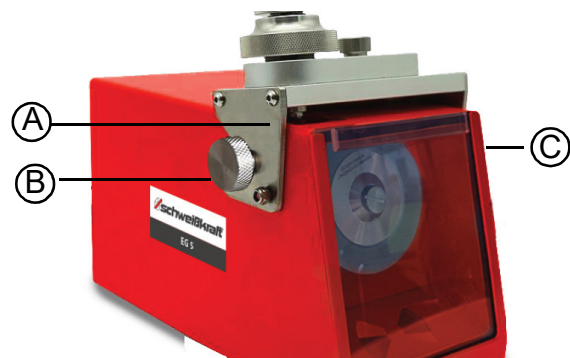

Fig. 4: Angular adjustment of the rotary body
Step 1: Turn the rotating body (A) to the required angular position by referring to the angle indicator (C). Set the grinding angle according to the required grinding effect and tighten the fastening knob (B, Fig.4) on both sides.